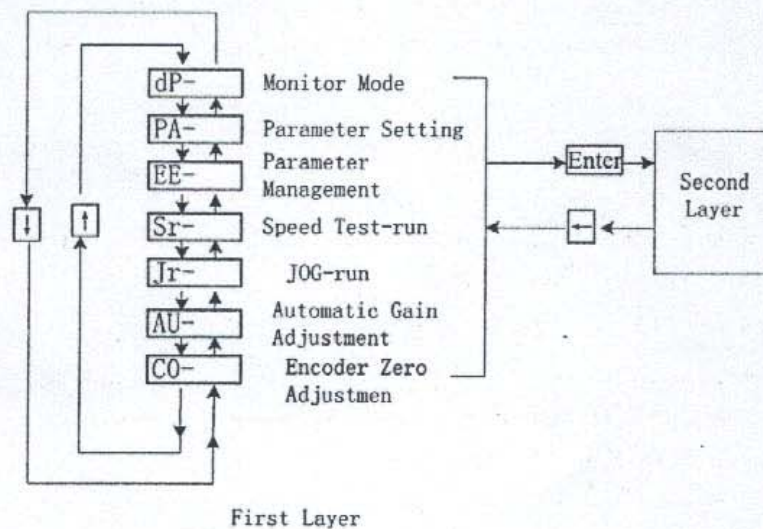

Figure 6.1 Block diagram for selecting operation mode.
3) The operation executes according to multi-layer menu. The first layer is the main menu including seven operation modes. The second layer is the function menu of specific operation. The block-diagram of the main-menu shows as figure 6.1.